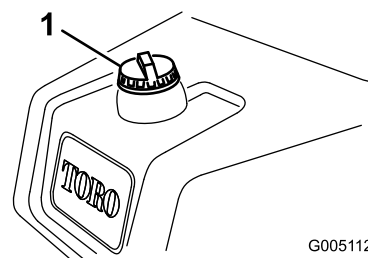

Figure 19
1. Clean around the fuel tank cap and remove it (Figure 19).